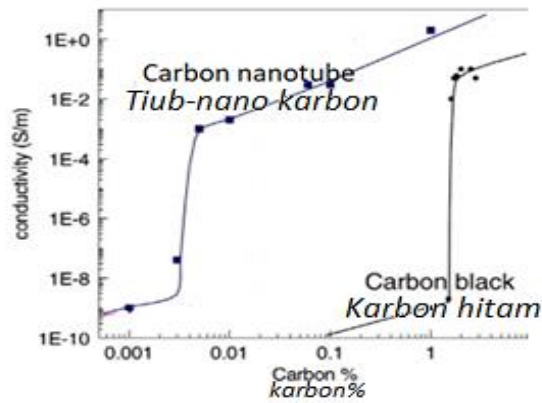

Figure 2: Effect of filler content on conductivity
- (b). An epoxy composite using conductive carbon nanotube and carbon black as filler are fabricated. The changes in the conductivity with the filler content is shown in Figure 2. Answer the following: